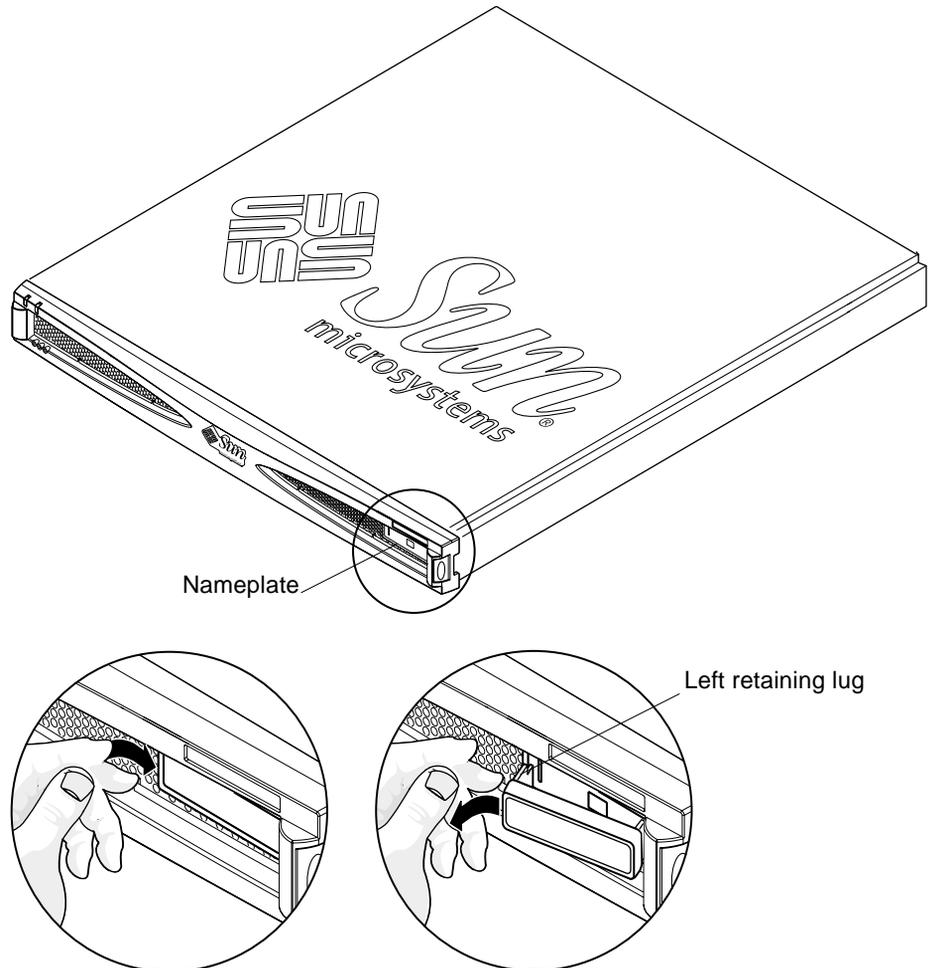

FIGURE 1-5 Releasing the Left Retaining Lug to Release the Nameplate's Left Side
1. Press the left end of the nameplate towards the right (FIGURE 1-5).